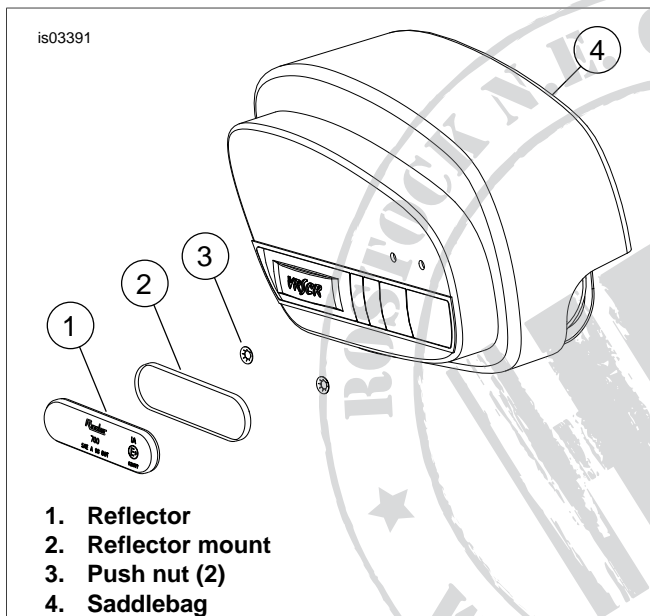

Figure 3. Mounted Reflectors
- See Figure 3. Position reflector mount on lower right corner of saddlebag.